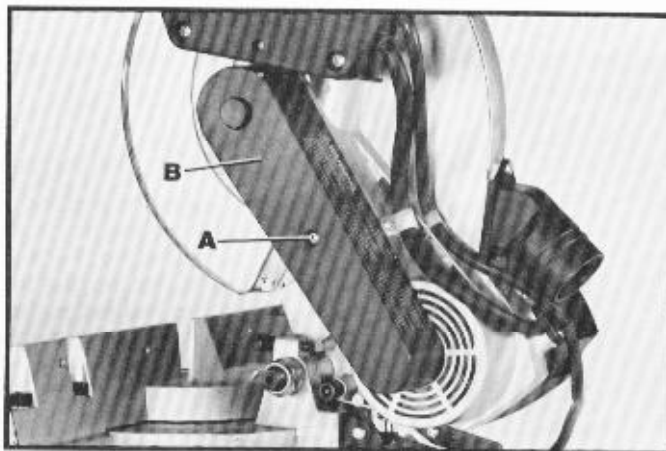

Fig. 62
2. Remove screw (A) Fig. 62, and belt and pulley cover (B).